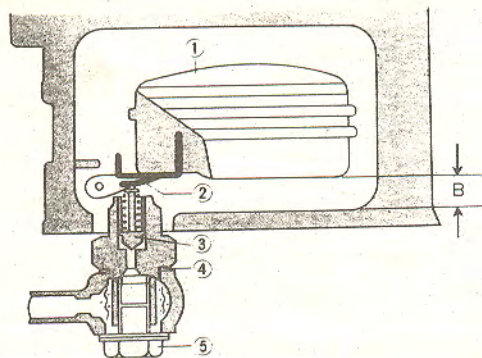

Fig. 1.46. — Checking the float level with the carburettor in the inverted position. The important dimension is "B".
Now invert the carburettor, making sure that it is in a horizontal position and measure the dimension "B" in Fig. 1.46., which should be 22.5 ± 1.0 mm (0.886 ± 0.04 in.). The illustration shows the location of shims and the thickness, i.e. the quantity of shims at the fuel inlet bolt should be altered in order to obtain the correct dimension. Small corrections can be obtained by bending the tongue (2) in the illustration.